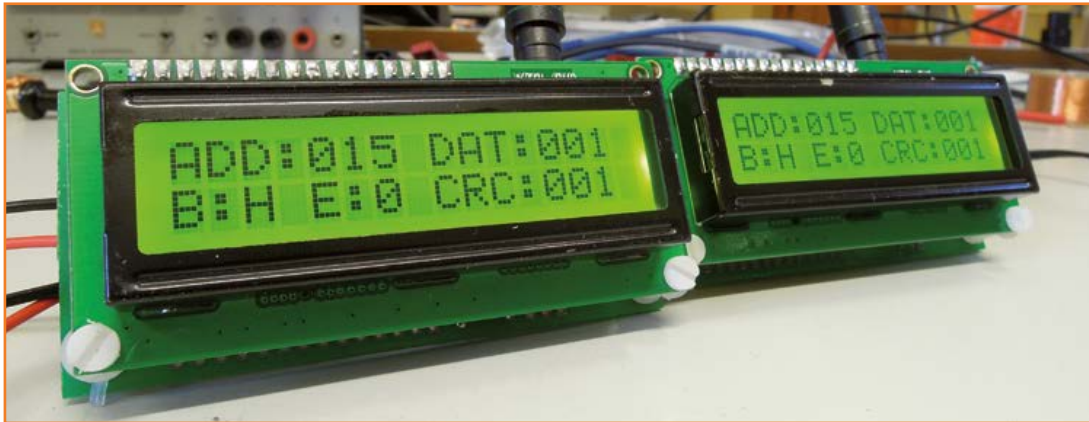

Figure 4.
Figure 4 shows the prototypes assembled at Elektor Labs with an LCD display showing *address* = 15, *data* and *CRC* = 1, Bit rate (B) is high (H = 5,000 bps) and Error (E) = 0 (no error). This simple application shows the potential of these units and it is very useful to debug the code when things do not turn out as expected. This concludes the second and last part of this project. Should you have any questions, concerns or just comments regarding the hardware or software presented, do not hesitate to join our topic on [2] or visit the author's web page at [3]; PCB artworks and software routines will be available for direct download.